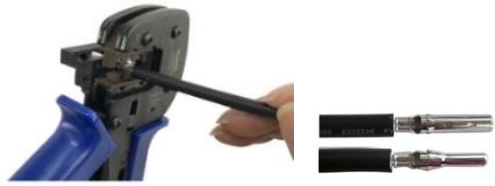

FIG. 7-15 Crimp the Contact
- 2) Place the contact around the conductors of the stripped cable, then crimp the contact with wire crimping pliers, as per FIG. 7-15.